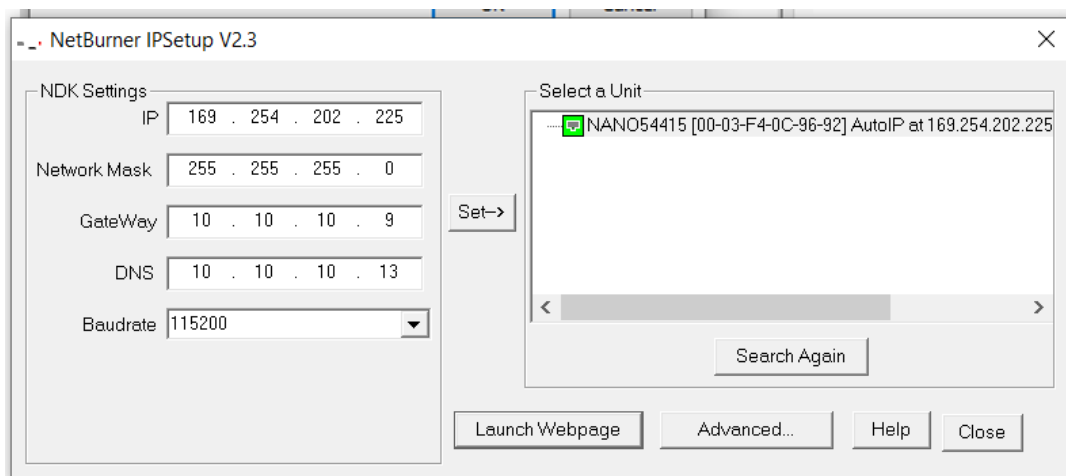

Figure 70 - IPSetup Displaying the Current IP Address
- IPSetup shows the name of the application as shown on Figure 70 and 71 above. The name is composed of letters VRTX and 4 last HEX digits of unit's MAC address. For example: VRTX9692 also referred to as the NetBIOS name.